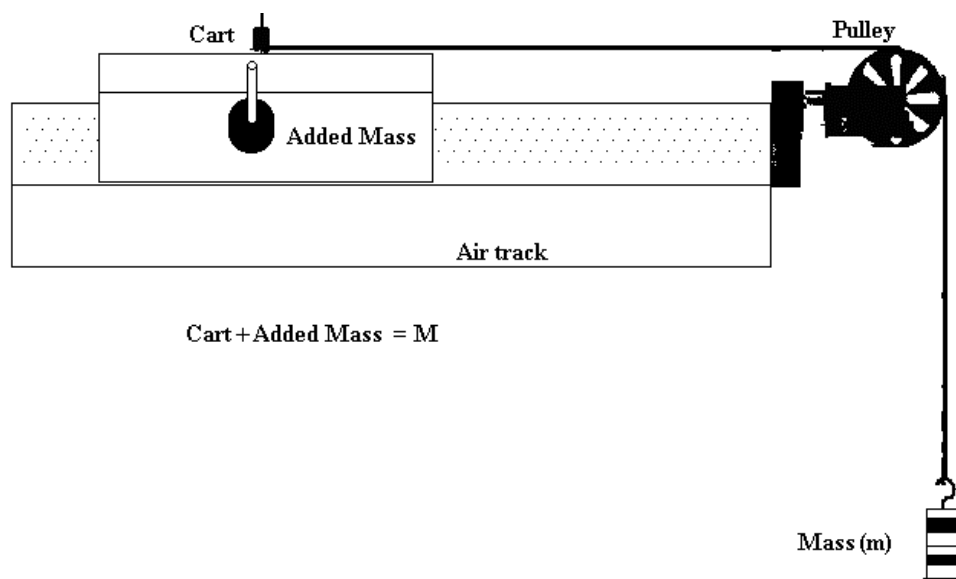

Figure 1
3. Attach a string to the end of the cart as shown in Figure 1. Attach a mass hanger to the other end of the string.
5. Put the string that connects the cart and the mass hanger over the pulley. Verify/Adjust the pulley so that the string from the cart is parallel to the level track or the top of the table as per Figure 1.